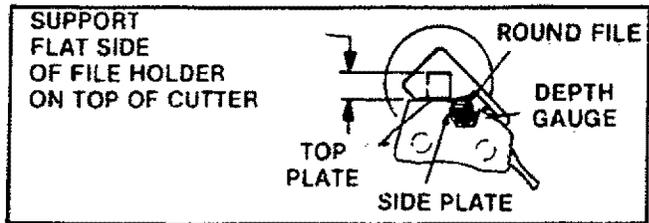

Figure 38
- a.) Support the square rod on the file holder (with 5/32" round file) on cutter top plate and depth gauge. Figure 38.